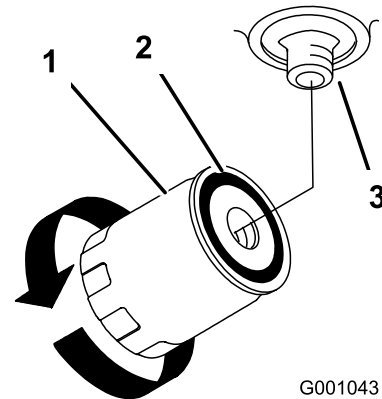

Figure 60
3. Apply a thin coat hydro fluid to the rubber gasket on the replacement filter (Figure 60).
7. Fill the hydraulic tank with hydraulic fluid until the fluid overflows the filter and then turn the oil filter clockwise until the rubber gasket contacts the filter adapter, then tighten the filter an additional 1/2 turn (Figure 60).